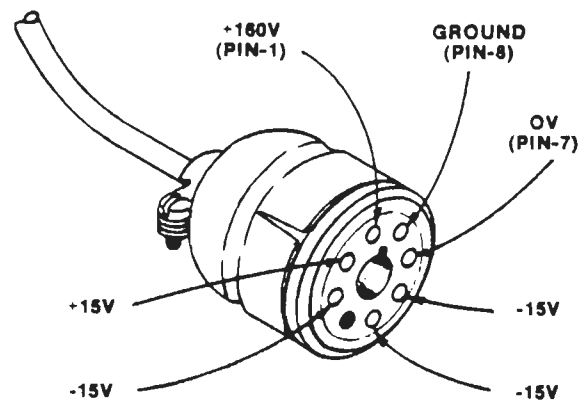

Fig. 5-1. Voltages at Pre-amp Plug
37. Check that preamplifier is plugged in; check voltages at preamplifier plug (see Fig. 5-1). If problem persists, replace preamplifier. **CAUTION: TURN ELECTRONICS OFF BEFORE DISCONNECTING PRE-AMP PLUG.**